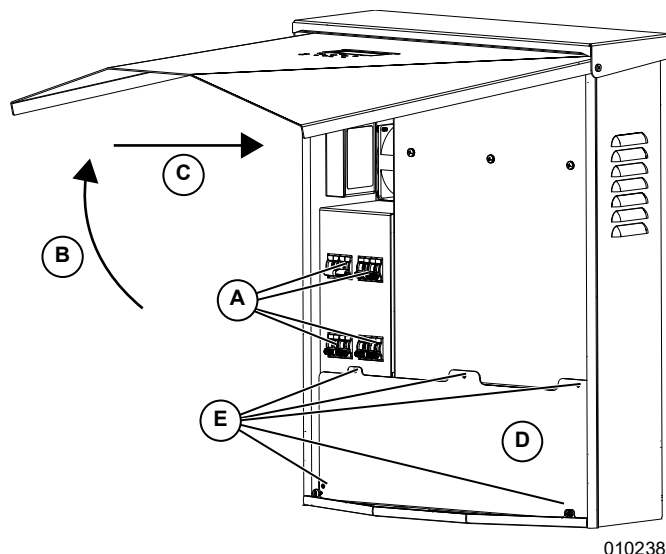

Figure 8-1. Wiring Compartment
3. See Figure 8-1. Open all PWRcell DC Disconnects (A). Verify DC voltage reported on LCD screen has dropped to below 10 VDC.
5. Open inverter front cover by lifting the bottom just beyond horizontal (B) and pushing inward (C).
6. Locate wiring compartment cover (D).
7. Remove five M4X10 screws (E) and wiring compartment cover.
2. See Figure 8-1. Open all PWRcell DC Disconnects (A). Verify DC voltage reported on LCD screen has dropped to below 10 VDC.